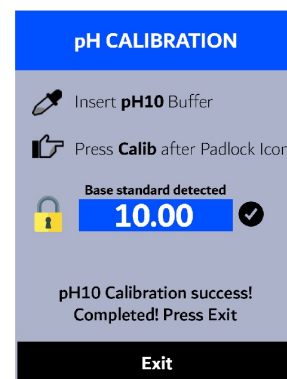

Figure 46.
21. If the calibration succeeds, a checkmark (✅), a "pH4 Calibration success!" or a "pH10 Calibration success!" message, and a "Completed!" message will appear (Figure 46). Otherwise, a warning message is displayed.